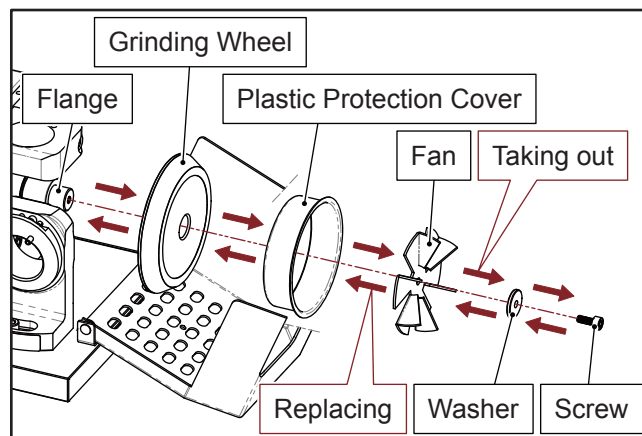

Fig. 12-3
④ Loosen the screw from the grinding wheel to take off the grinding wheel. (Fig. 12-3)
⑤ Use clean cloth to clean the flange and the contact surface of the grinding wheel.
⑥ Replace the new grinding wheel and fasten the screw. (Fig. 12-3)